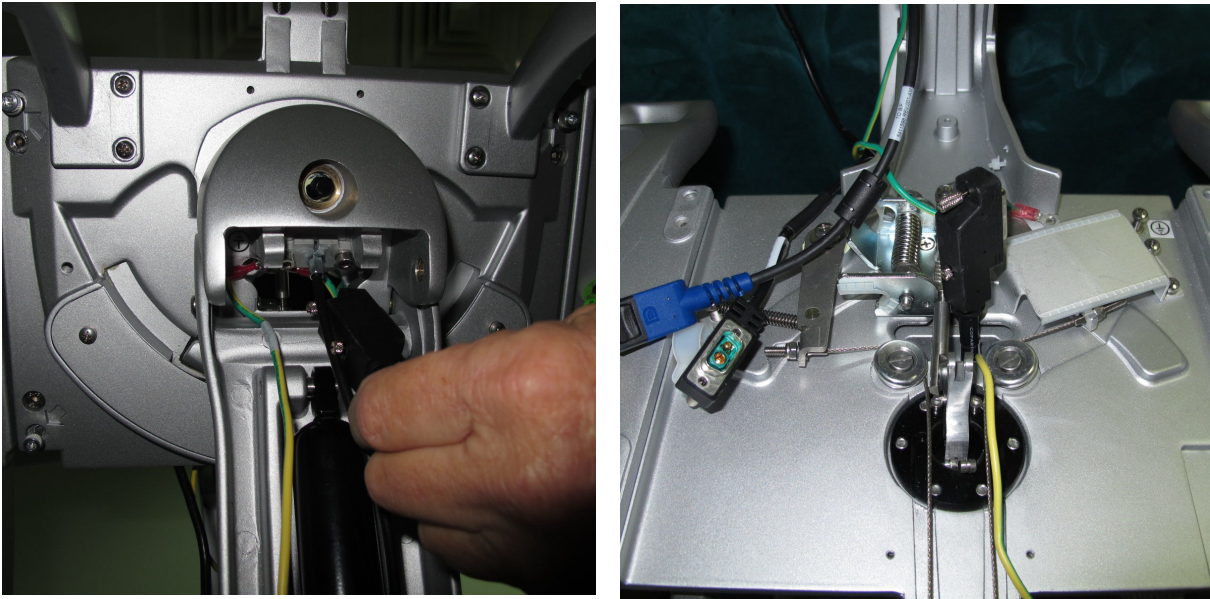

Figure 8-126 Feeding the OPIO-to-BIF Cable through the OPIO Aperture
- 6.) Thread the OPIO to BIF cable from below the OPIO platform to emerge above the platform - see Figure 8-126 below.